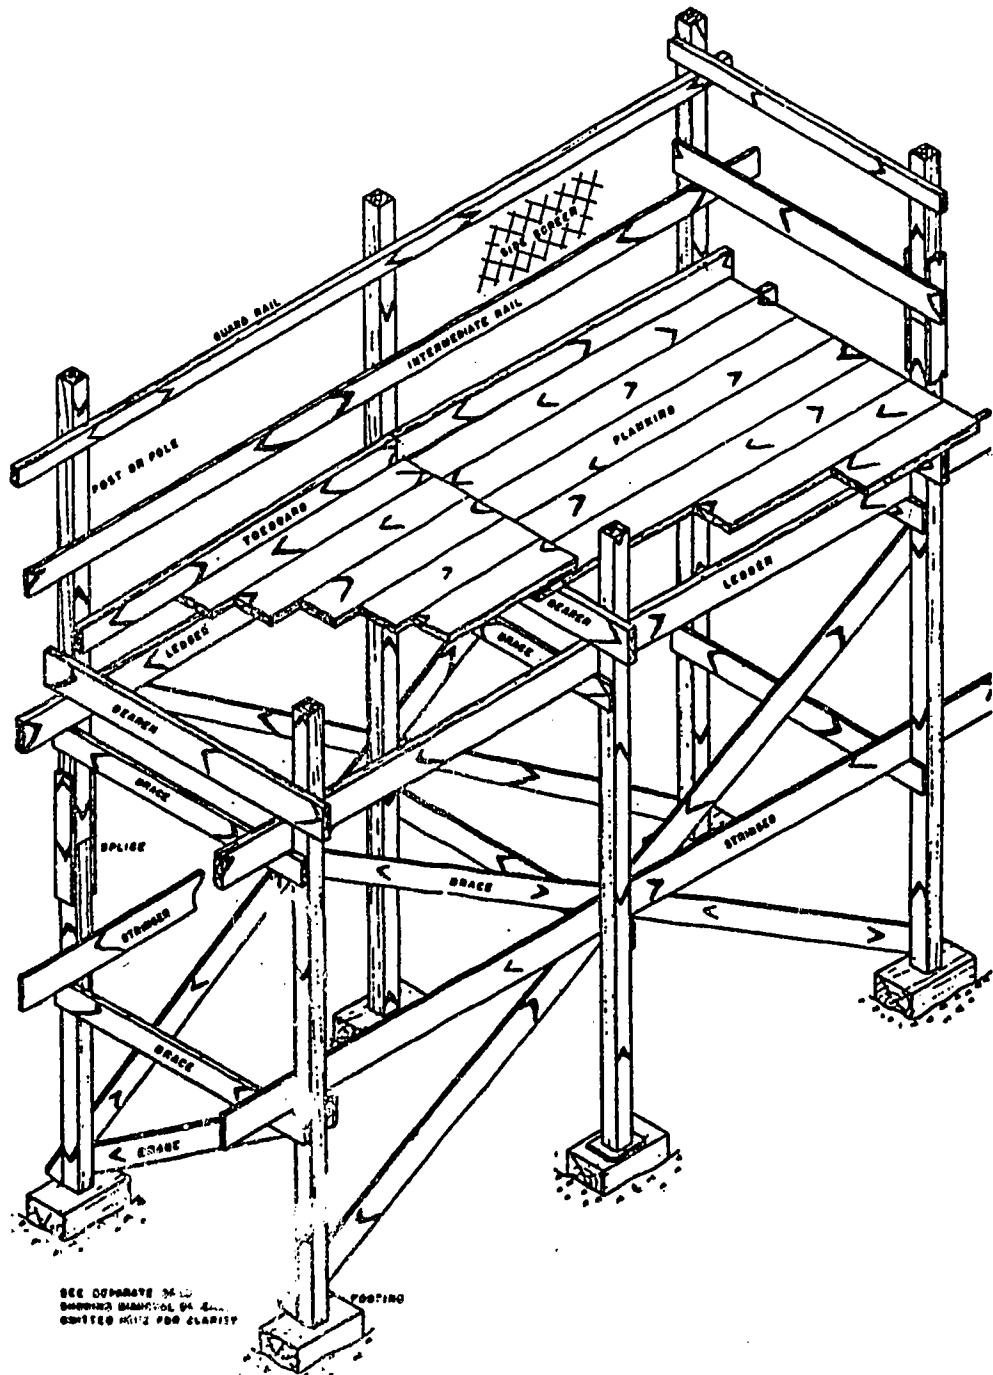

Figure 14. Double Pole or Independent Scaffolding.
- b. Scaffolding (See Figures 14 thru 21 for types of scaffolding):
(1) Inspect all parts before use. Re-